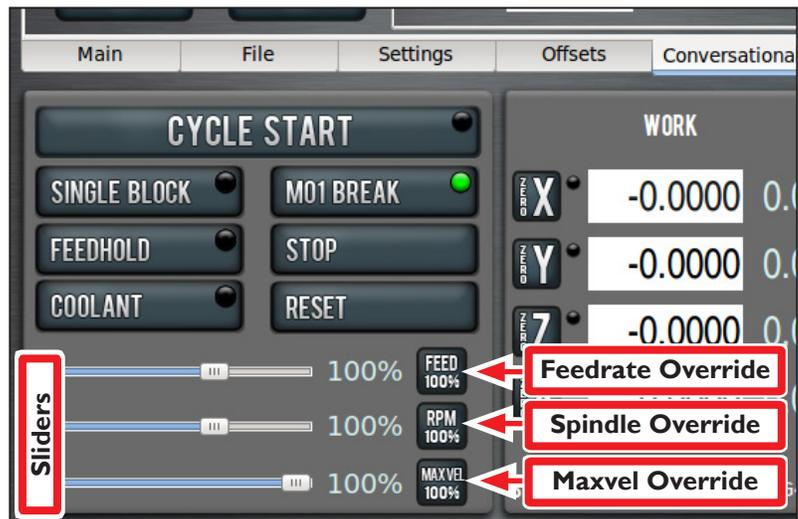

Figure 6.2
The buttons, sliders, and DROs of the *Program Control Group* are functions that relate to tasks the operator might perform while running a G-code program (see **Figure 6.2**). They may be used at any time while running a program, or before running a program to set modes like *Single Block* or *M01 Break*.
**Spindle Override** – The *Spindle Override Slider* and *RPM 100%* button (see **Figure 6.2**) allow you to override the commanded spindle speed by percentages ranging from 1 percent to 150 percent. The *RPM 100%* button returns the override to 100 percent of the commanded value or no override. The spindle must be running for these controls to have a noticeable effect. If overridden when the spindle is stopped, the speed is overridden the next time spindle starts. The override doesn't drive the spindle past its maximum speed. The *Spindle Override* setting is ignored during spindle-synchronized (e.g., G84 tapping cycle) moves or any time M48 (disable feed and speed overrides) is in effect.
**Feedrate Override** – The *Feedrate Override Slider* and *Feed 100%* button (see **Figure 6.2**) work similarly to the spindle override controls. They affect the commanded feedrate by a percentage ranging from 1 percent to 150 percent. The feedrate override works for MDI, jogging, and G-code program G01/G02/G03 moves. The override has no effect on G00 (rapid) moves. The *Feedrate Override* setting is ignored during spindle-synchronized (e.g. G84 tapping cycle) moves or any time M48 (disable feed and speed overrides) is in effect.
**Maxvel Override** – The *Maxvel Override* and *Maxvel 100%* button (see **Figure 6.2**) work similarly to the *Feedrate Override* controls, except that these controls affect both G00 and G01 moves. They clamp the mill velocity to a percentage of the maximum velocity. The Maxvel slider can be very useful when running a G-code program for the first time. You can use it to stop the mill by sliding it down to 0 percent and verifying the *Distance to Go* and X/Y/Z/A DROs look appropriate before continuing. The *Maxvel Override* is a safety feature, and as such is not inhibited during spindle-synchronized moves or with M48. Make sure that Maxvel is at a value that allows the mill to achieve the programmed feed rate during spindle synchronized moves (e.g. G84 tapping) or the move may fail to produce the intended results.
**DTG (Distance to Go)** – Just to the right of the axis *DROs* are the *DTG* (see **Figure 6.2**) or *Distance to Go* labels (light blue) that are read-only and display the distance remaining in any single move.